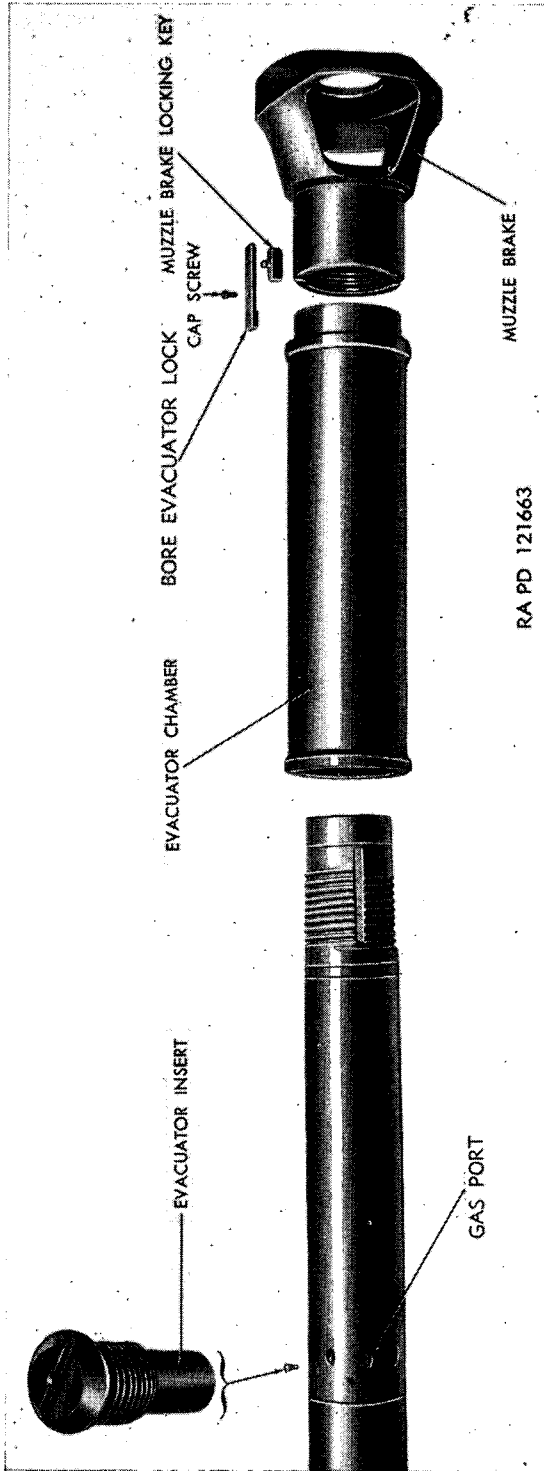

Figure 339. Evacuator chamber—exploded view.
- (4) If it is necessary to replace the inserts (fig. 339), they may be unscrewed from their tapped holes in the tube.
- (1) Remove the muzzle brake and evacuator (par. 338).
- (2) Clean the gas ports in the gun tube (fig. 339). If any of the evacuator inserts have been removed from the gun tube, screw them into their tapped holes to the rear of the muzzle threads on the tube (fig. 339). Normal maintenance does not require removal of these inserts.
- (3) Install evacuator and muzzle brake (par. 340).
- (1) If the evacuator inserts have been removed from the tube, insert them, slotted end outward, into the tapped holes to the rear of the muzzle threads on the tube, and screw them in to a firm seat (fig. 339).
- (3) Screw the muzzle brake rearward onto the muzzle until the muzzle face of the tube is flush with the adjacent rear wall of the muzzle brake chamber (fig. 339). Then rotate the brake sufficiently to the right or left to aline its keyslot with the nearest keyway in the tube.
- (4) Insert and seat the key to retain the brake in position and screw the evacuator forward with spanner wrench 7237270 firmly against the muzzle brake.